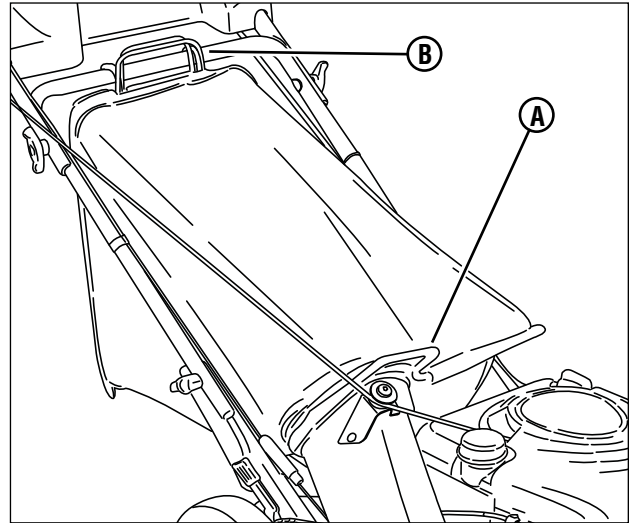

Figure 13: Installing the grass bag
2. Install the grass bag by sliding the connector (A, Figure 13) over the adapter flange.
3. Attach the grass bag hooks (B) over the middle handle cross bar.